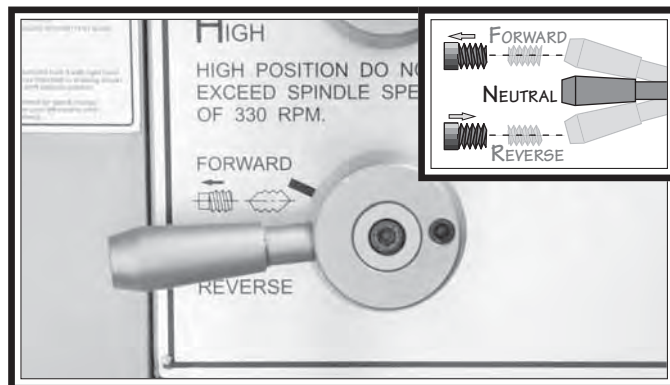

Figure 20. Feed direction forward/reverse lever in the neutral position.
9. Move the feed direction forward/reverse lever to the middle (neutral) position, as shown in Figure 20.